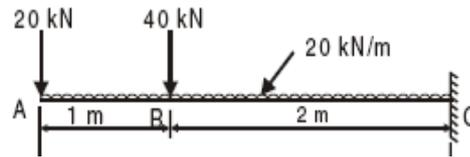

Figure No 2
21. Draw shear force and bending moment diagram for the beam given in Figure No 2